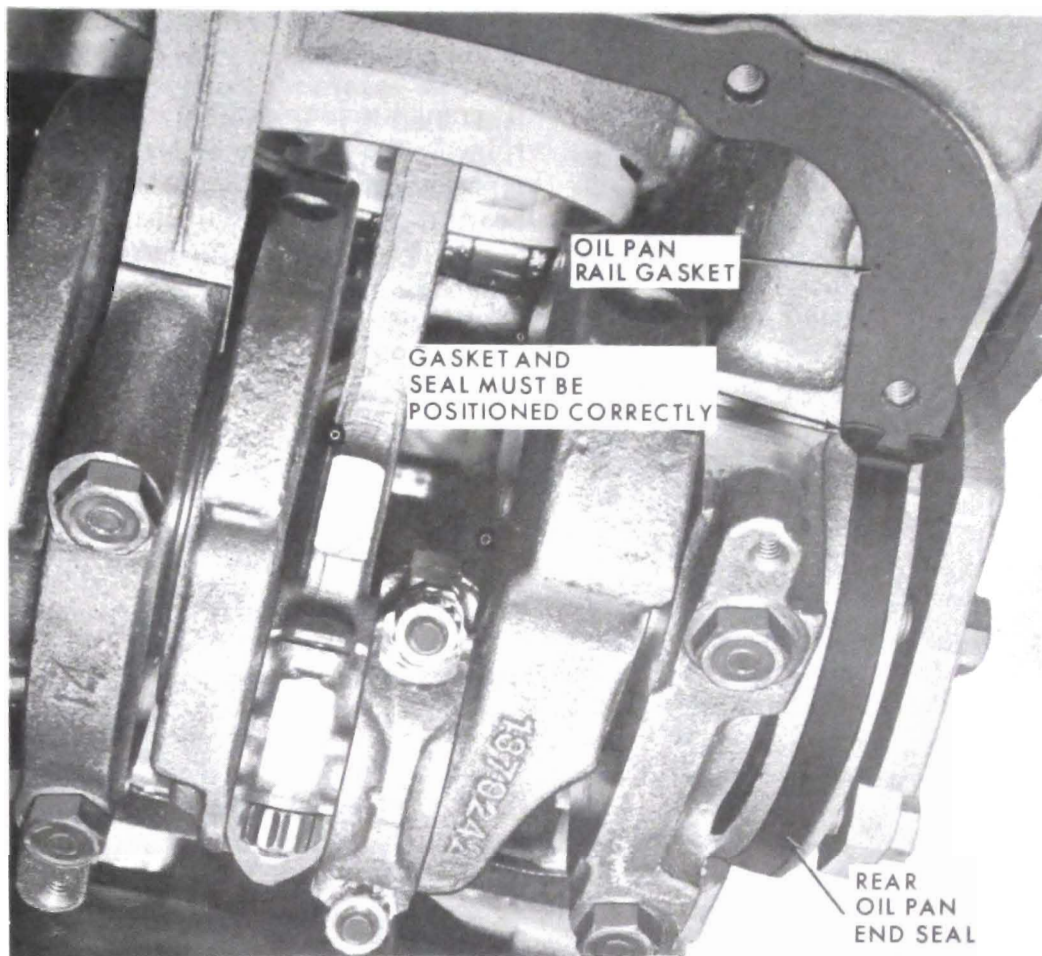

Figure 60-224A Oil Pan Gasket and Seal Installation
3. Apply non-hardening Permatex to a few spots on a new pan gasket (cork) and install on block. *Make sure seal and gasket are properly fitted.* See Figure 60-224A. (455